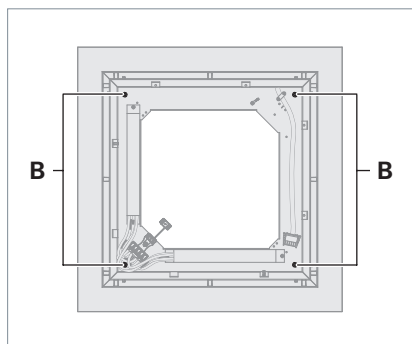

Fig. 3: Fixing the luminaire frame to the ceiling.
- ▶ Fix the luminaire frame to the ceiling by uniformly tightening the four screws **B**, see Fig. 3.